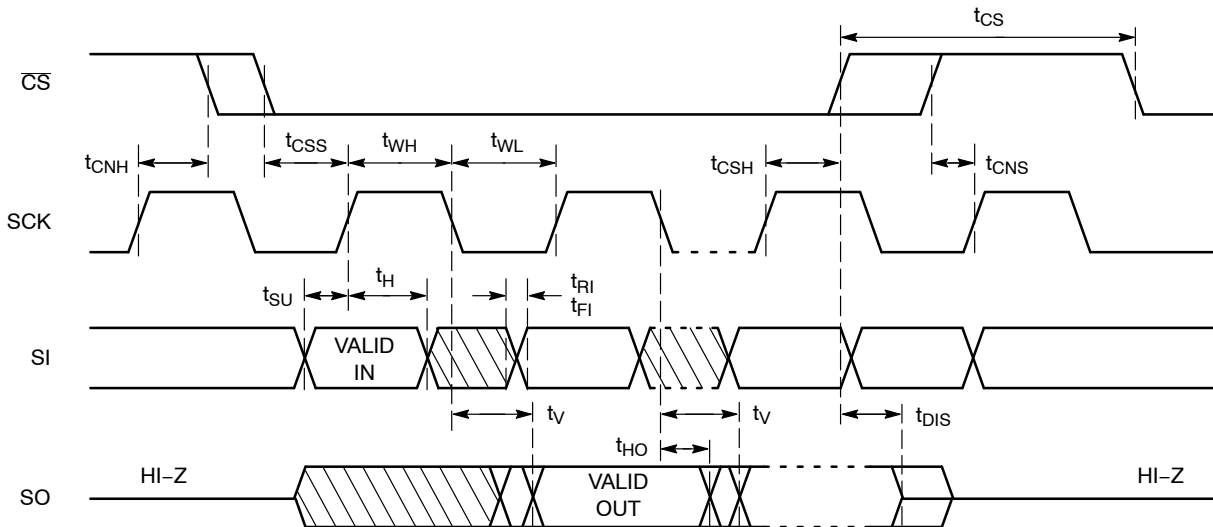

Figure 2. Synchronous Data Timing
7. **All Chip Select (CS) timing parameters are defined relative to the positive clock edge (Figure 2). t_{CSH} timing specification is valid for die revision C and higher. The die revision C is identified by letter "C" or a dedicated marking code on top of the package. For previous product revision (Rev. B) the t_{CSH} is defined relative to the negative clock edge.**
After a high to low transition on the $\overline{\text{CS}}$ input pin, the CAT25320 will accept any one of the six instruction op-codes listed in Table 7 and will ignore all other possible 8-bit combinations. The communication protocol follows the timing from Figure 2.